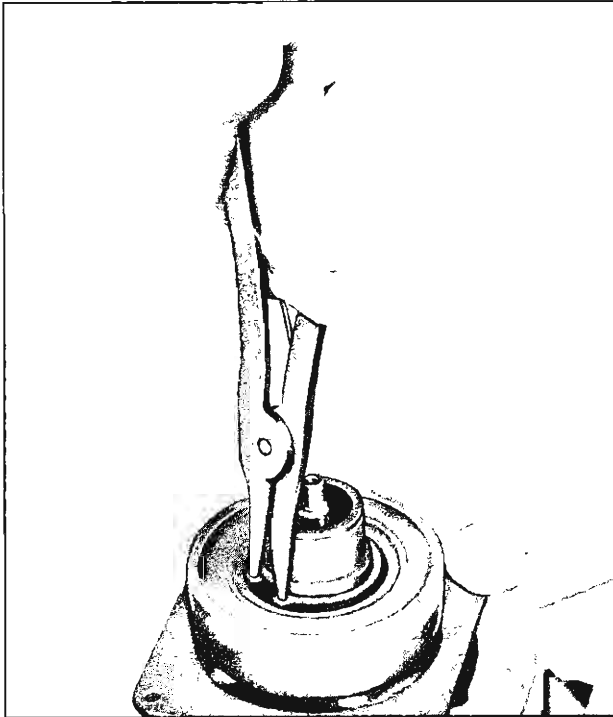

Fig. 21—Removing Coil Housing Retainer Ring
3. Using snap ring pliers J-6435, remove the coil housing retainer ring (fig. 21).